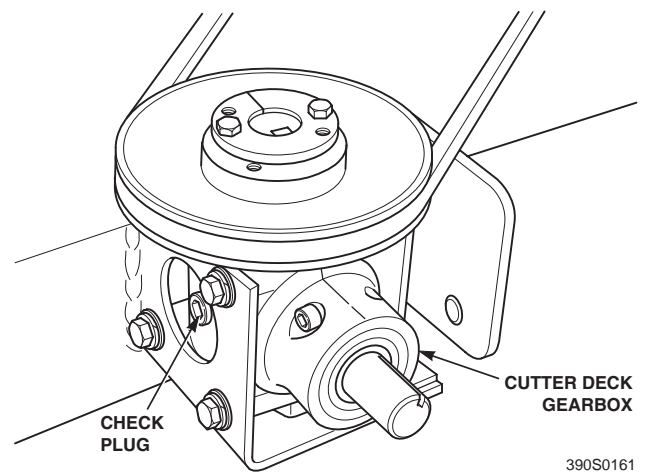

Figure 7-9 Cutter Deck Gearbox
The fluid level in the cutter deck gearbox (Figure 7-9) should be checked after every 100 hours of operation or bi-weekly, whichever occurs first.
- Clean and remove the check plug from the side of the gearbox (See Figure 7-9). Visually check that the lubricant level is up to the bottom edge of the check plug hole. If lubricant is low, add SAE 80W90 lubricant through the check plug hole in the gearbox until it is level with the bottom of the check plug hole. Install the check plug and tighten securely.